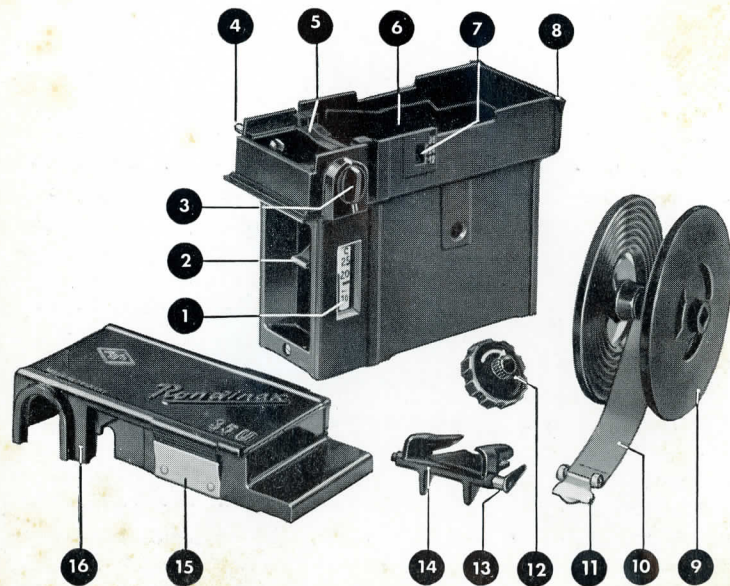
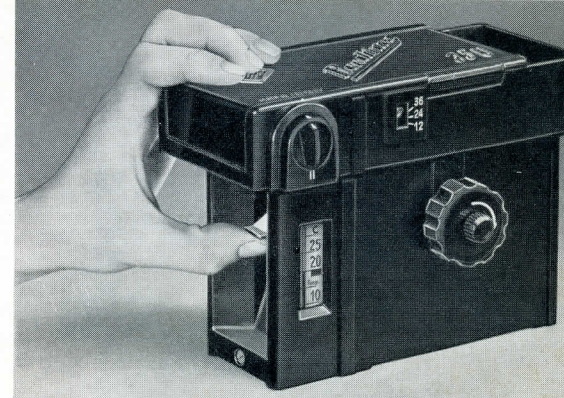

Fig. 1
Fig. 7
Make sure that when the tank was last cleaned and reassembled the sealing knob (18) was not screwed up too tight, and that the winding knob (19) turns easily, and also ensure that the cassette chamber, film guide (14), spiral drum (9) and tension band (10) (see Fig. 1) **are completely dry.**
With the lid still off, wind about 2 inches (5 cm.) of the film on to the film guide by turning the winding knob (19) (see Fig. 4) slowly in the direction of the arrow. This length of film is ample to ensure that the end of the film is threaded cleanly into the film guide. No exposed frames will be lost in this way at the beginning of the film, because in loading the camera at least one frame is wound on after the tongue is entirely on the take-up spool before the first exposure is made. Should resistance be felt even when only this short length of film has been wound in, this indicates either that the corners of the film have not been turned under or that the leading edge of the film is not gripped centrally in the film clip, or maybe even that you have forgotten to replace the film guide (14) (Fig. 1).
As soon as a considerable resistance to winding is felt, **stop turning the knob immediately**, as this indicates that the complete film has been wound on to the drum. In the case of a 36-exposure miniature film this indicator (7) (see Fig. 1) will read 36. The film must then be severed from the empty cassette by pressing the cutting lever hard upwards to a definite stop (see Fig. 7).
If only part of the film has been exposed—say, 24 frames—there is no need to develop the whole film: wind the film on to the drum until the indicator (7) (see Fig. 1) points to 24, then with the knife cut off the part to be developed; there will then be wound on the drum 24 exposed frames together with about 2 inches (5 cm.) of unexposed film.